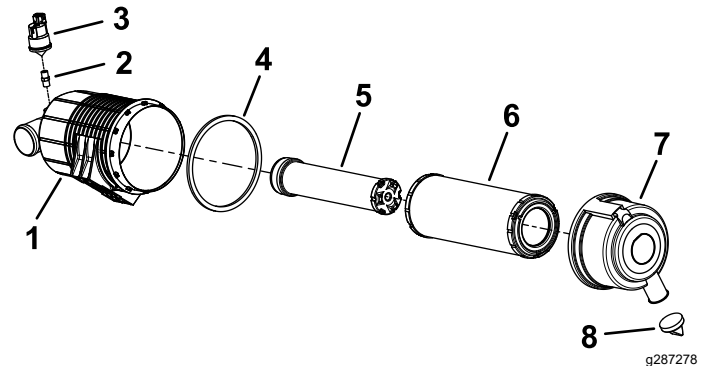

Figure 38
3. Service the air-cleaner filter and safety element when the air-cleaner indicator shows red (Figure 38).